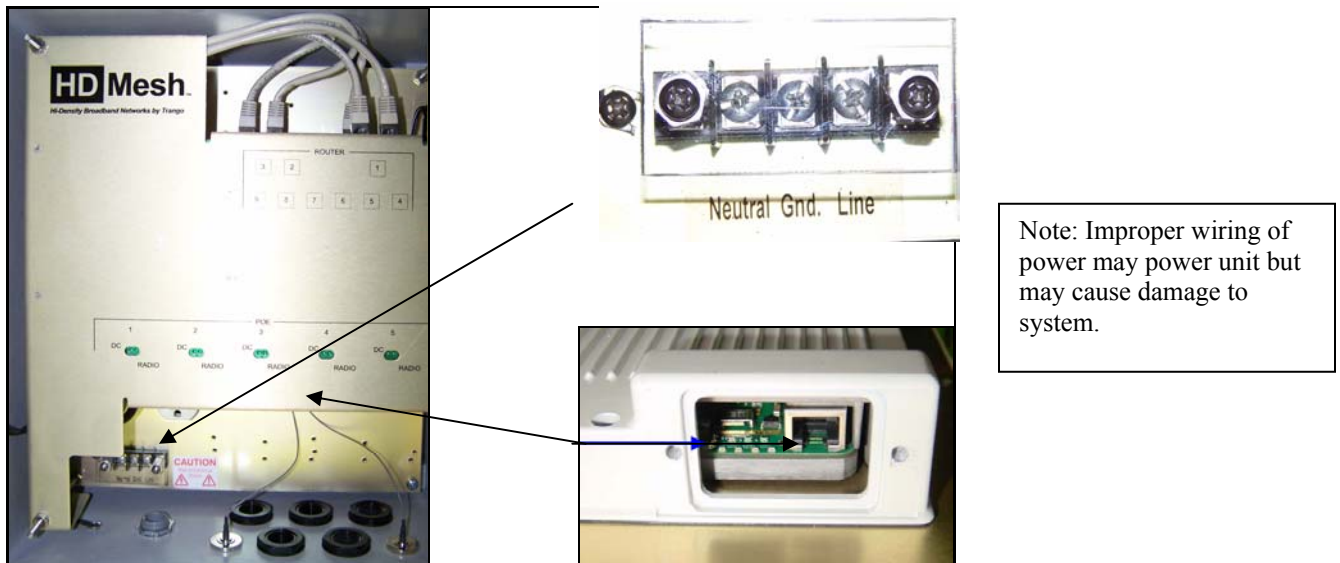

Figure 3
- Both green LEDs on the POE of the HD Mesh should be lighted, indicating power is present to the POE as well as the radio. (Figure 3)